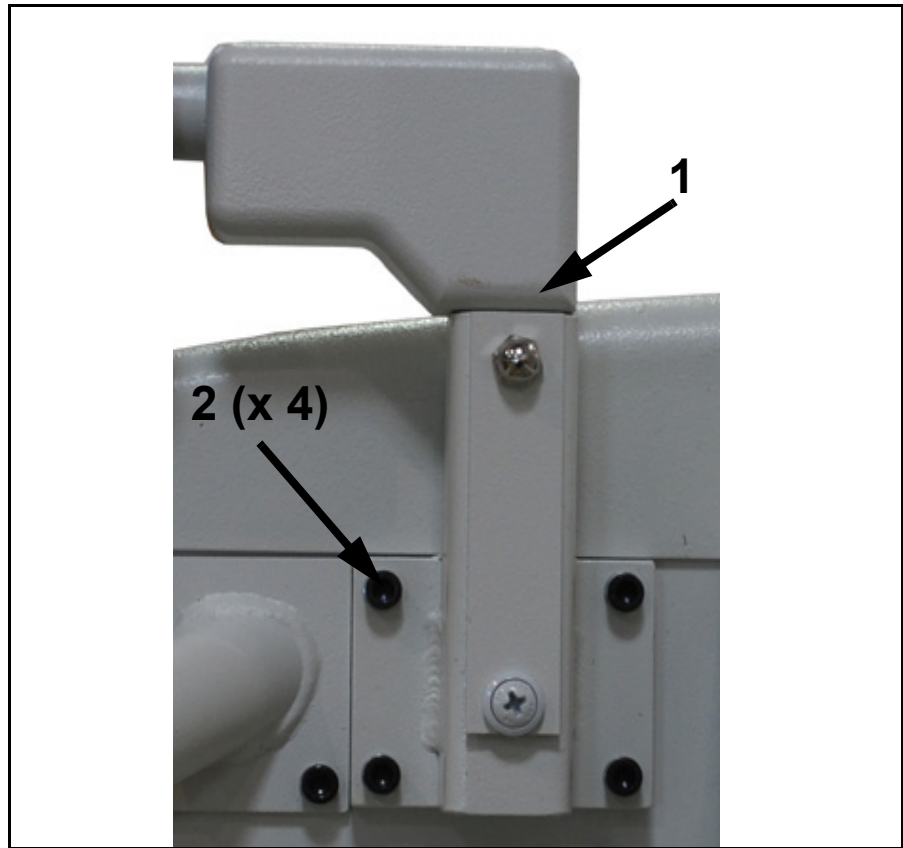

Figure 6-14. Handle Removal
- 1 To remove the handle (1 in Figure 6-14), unscrew the handle screws (2) and lift handle.